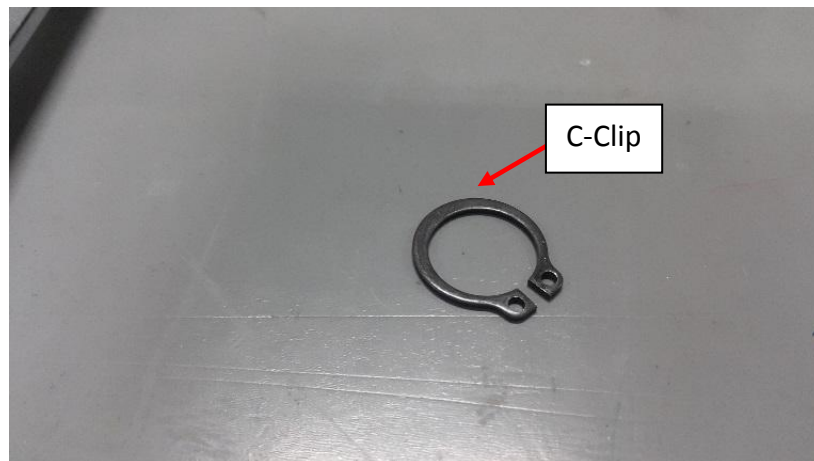
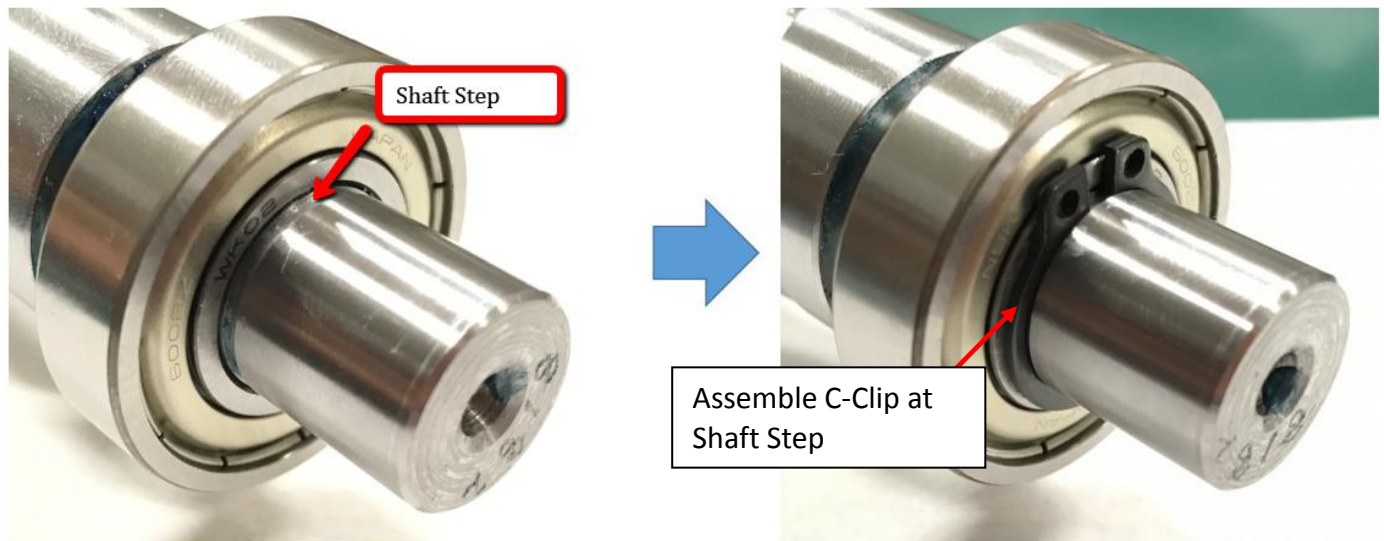

Figure 34 C-Clip
Figure 36 C-Clip Insert into Shaft Step
28. Install the C-Clip as shown in the Figure 34 to Figure 36.
Remarks : C-Clip should be slot firmly into the “Shaft step” as below Figure 36